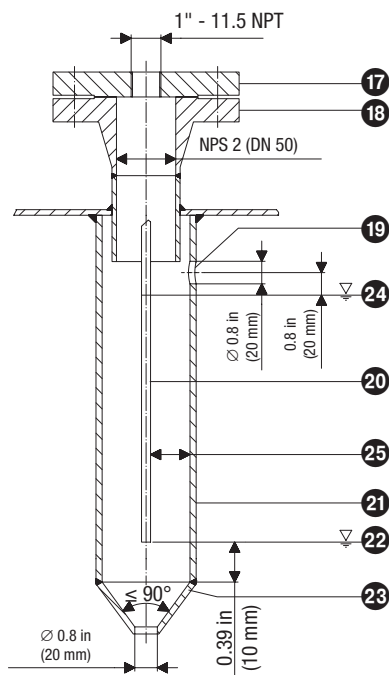

Fig. 17 Protective tube (provided on site) if electrode is used as an internal water level limiter
- Make sure there is a creepage path of at least 0.55 in (14 mm) between the electrode and ground (flange, tank wall). **Figs. 17 - 19**